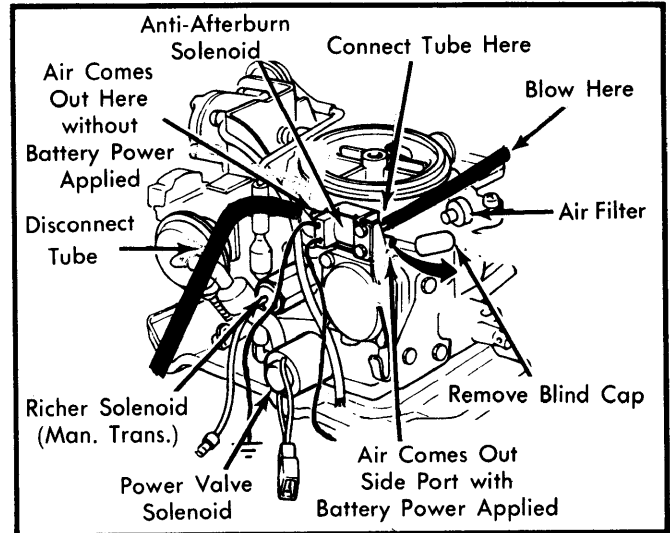

Fig. 2 Checking Anti-Afterburn Solenoid
- 1) Remove air filter from anti-afterburn valve solenoid and connect a suitable tube to nipple as shown. Disconnect vacuum tube from solenoid valve as indicated. Blow through tube. Air should come out opposite port of solenoid. See Fig. 2.
2) Detach coupler from relief solenoid valve and connect battery power to terminals on valve. Blow through tube again and note that air passes out of side port as shown. See Fig. 2.